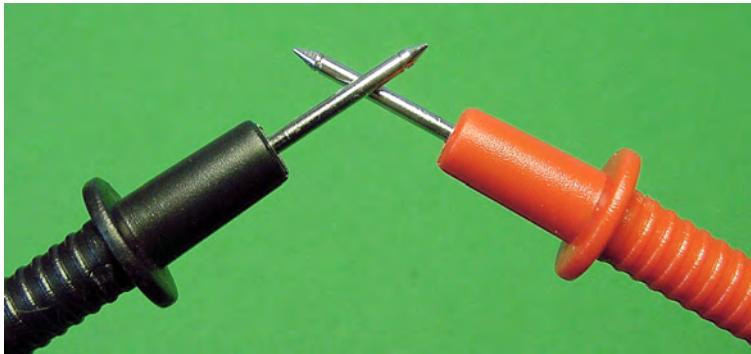

Figure 8-9. Touching the probe tips together to make an electrical connection
5. Touch the probe tips together (see Figure 8-9).